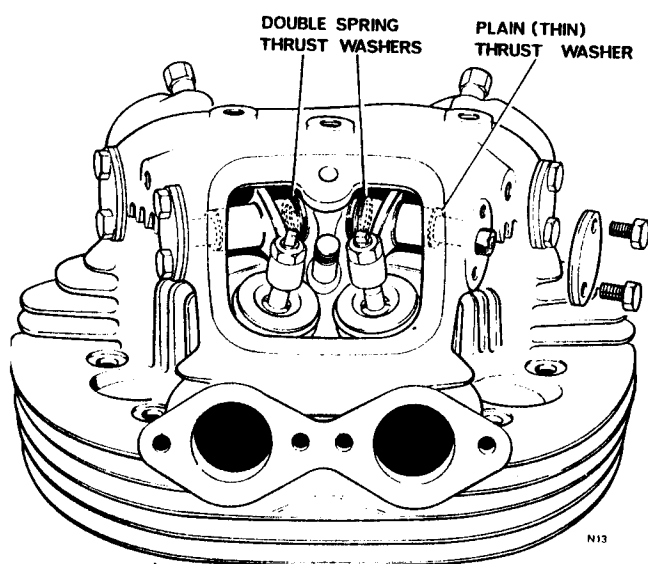

Fig. C4 Rocker thrust washers and securing plates.
- 1 Remove the two set screws retaining each rocker spindle cover plate (see Fig. C4).
- 4 Lift out the rockers and collect the plain and double spring thrust washers. On each rocker the plain thrust washer is outboard of the rocker and the double spring washer inboard (see *Fig. C4*).